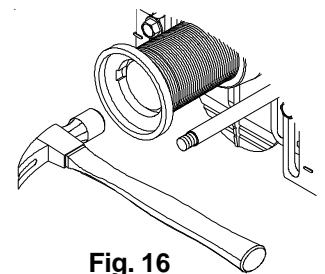

Fig. 16
a. Standard, -CS, and -CC Couplings – Remove coupling protector. Ensure coupling extends 5/16" from finished wall. Knock out the test cap with a hammer and deburr sharp edges. See Fig. 16